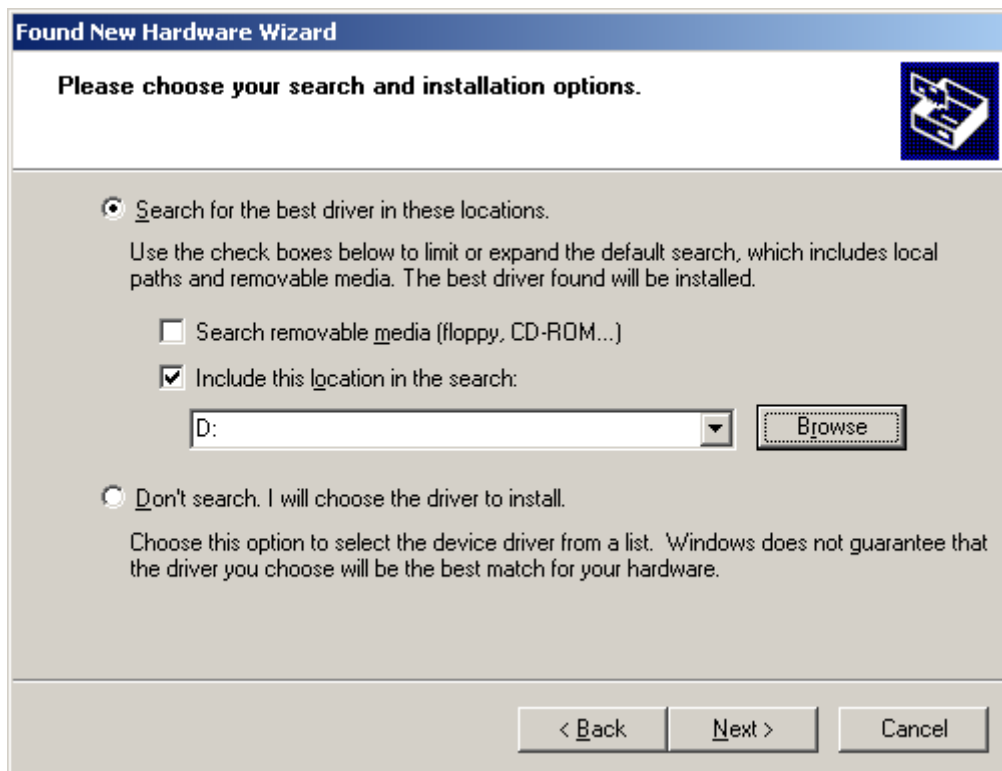

Figure 2 - Choose Search and Installation Options
5. Select "Search for the best driver in these locations" and "Include this location in the search" as shown in Figure 2, then click Next.